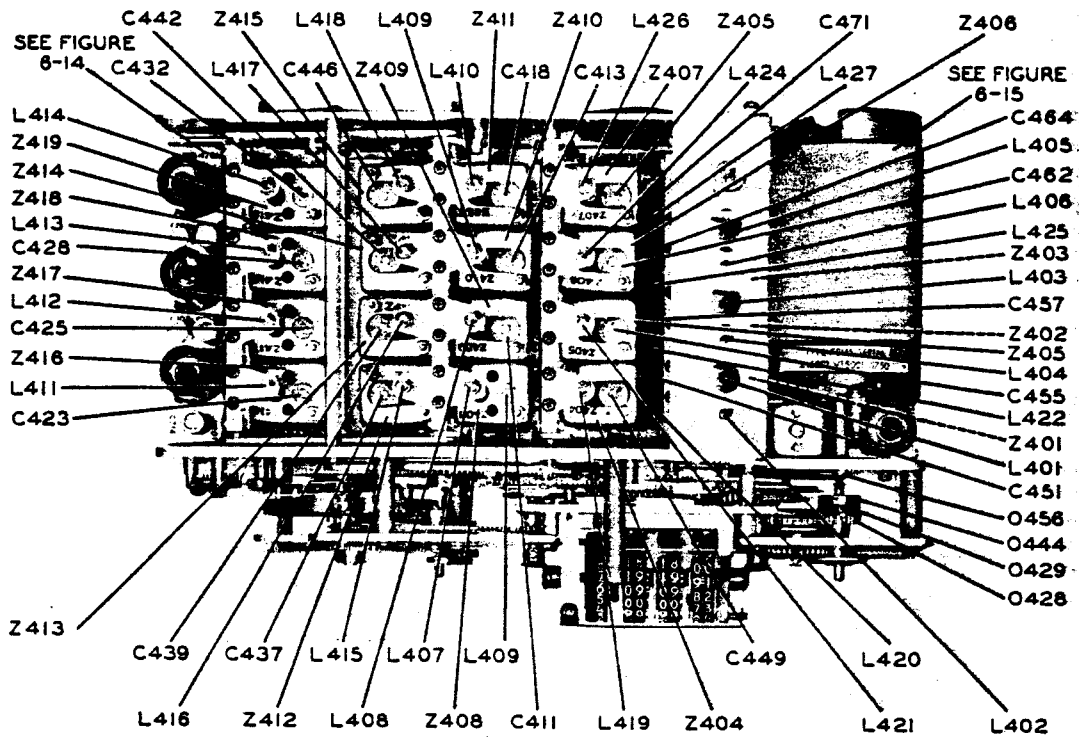

Figure 6-12. R-F and I-F Tuner Assembly, Top View
6-61. ADJUSTMENT OF VARIABLE I-F TUNED CIRCUITS. Refer to figure 6-12.
6-62. ADJUSTMENT OF LOW-FREQUENCY POINTS OF R-F TUNED CIRCUITS. Refer to figure 6-12.
- 6-63. ADJUSTMENT OF HIGH-FREQUENCY POINTS OF R-F TUNED CIRCUITS. Refer to figure 6-12.
6-64. TRIM ADJUSTMENTS OF R-F TUNED CIRCUITS. Refer to figure 6-12.